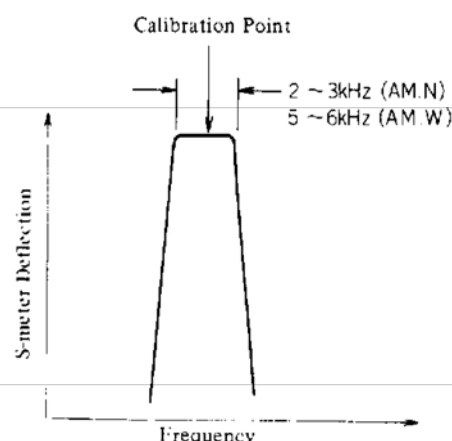

Fig. 4
4. Set the 100 KHz dial in the window to the nearest 100 KHz or 25 KHz reading, then zero beat the main tuning dial against marker signal while pressing the DIAL LOCK. For AM or FM, the beat tone can not be heard. Therefore, the calibration should be made for maximum S-meter reading. Since the AM and FM filters have a wide bandwidth, the calibration should be made at the center of the passband as illustrated in Figure 4.